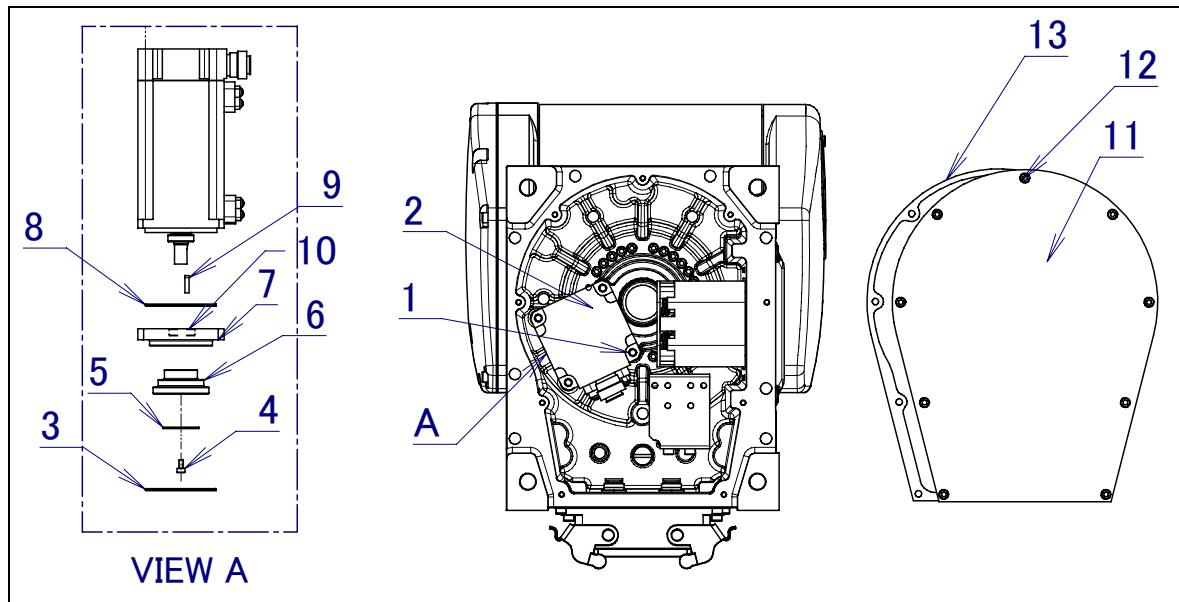
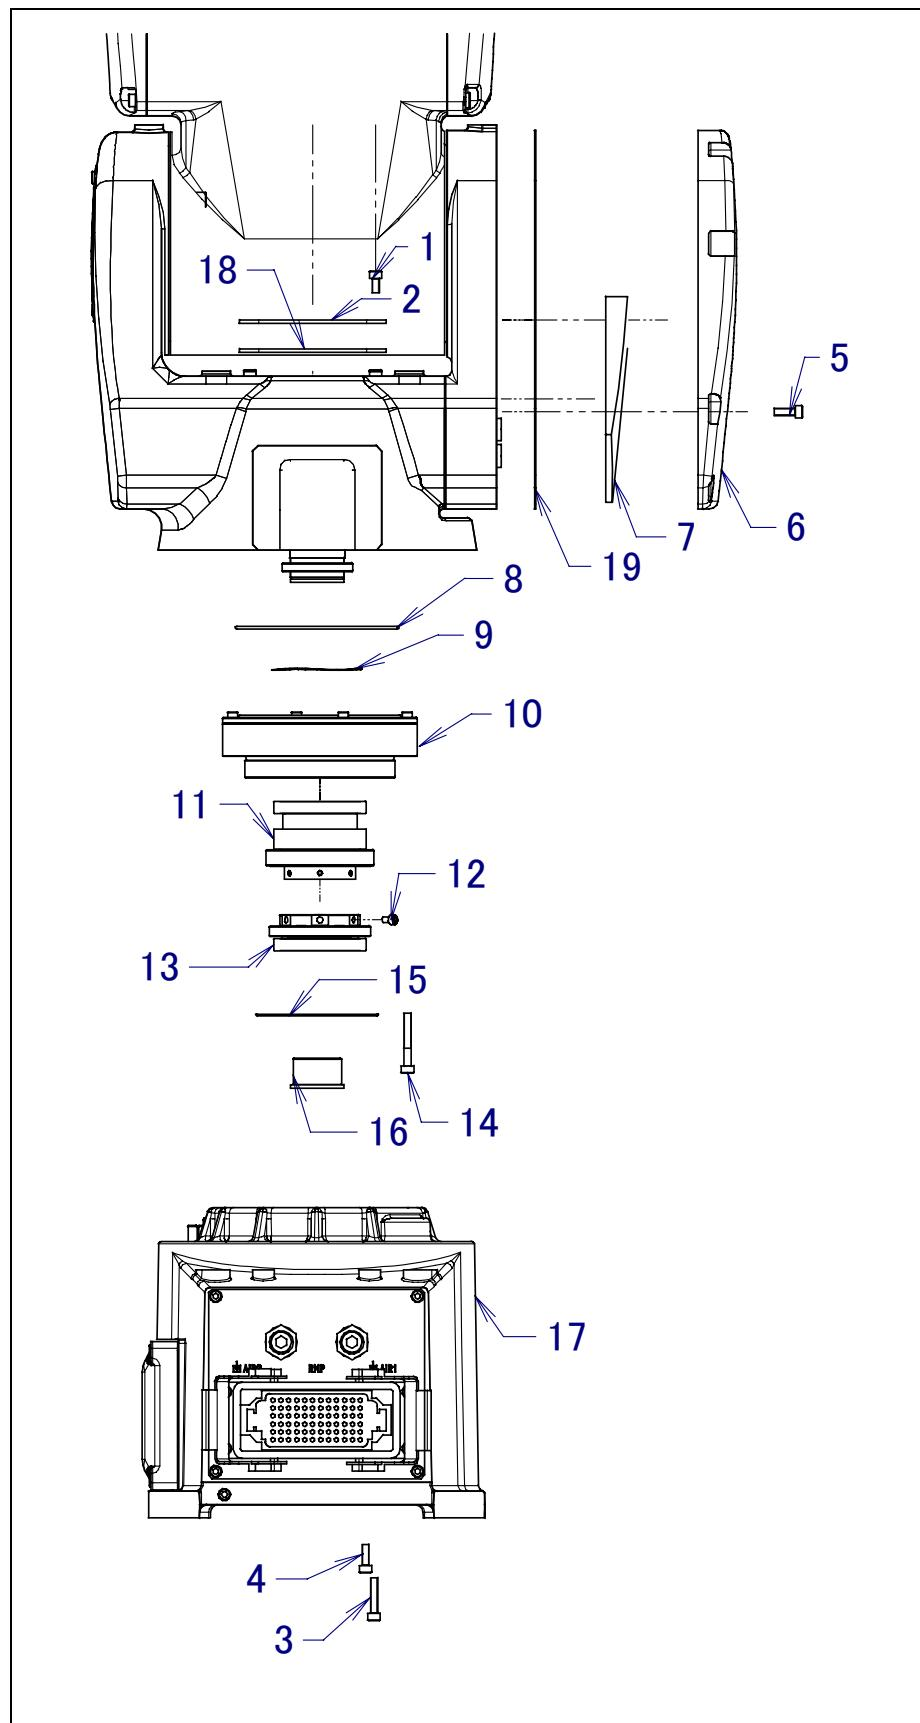

Fig. 4.2 Replacing J1-axis motor
Fig. 4.3 (a) Replacing J1-axis reducer
- 5 Remove bolt/seal bolt (1) and cover U (2). When packing is attached, remove packing (18), too.
- 7 Remove bolt (3), (4) and remove J1 base (17) by using tap for pulled out. In this time, pay attention that there is a possibility that grease goes out. (Refer to Fig.4.3(d))
- 8 Wipe the grease of the gear (13) off. In this time, do not damage the tooth side.
- 9 Remove bolt/seal bolt (14) and reducer (10).
- 10 Remove seal bolt (12) and gear (13).
- 11 Assemble the gear (13) to wave generator (11) of the new reducer (10).
- 12 Keep the horizontal and install a new main body of the reducer in J2 base. In this time, put O-ring (8) without forgetting after it exchanges it for the new article.
- 14 When severe dust/liquid protection specification of LR Mate 200iC, LR Mate 200iC/5L,5H or LR Mate 200iC/5LC,5WP,5C is specified, spread the sealant on the reducer referring to Fig.4.3 (b).
- 15 Attach new wave generator (11) to the reducer. In this time, put wave washer (9) without forgetting.
- 16 Phase to reducer and assemble J1 base (17) referring to Fig.4.2(c). In this time, put O-ring (15) without forgetting. Assemble bolt (4) after previously assembling all bolt (3).